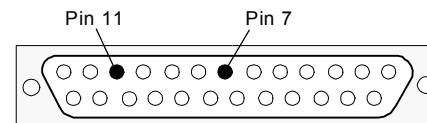

Figure A-3 Host Connector Default Pins (on back of concentrator)
1. Locate pins 7 and 11 on the host connector (figure A-3) and mark. (Use a small length of light wire approximately 4 inches, 18 to 26 gauge for shorting.)